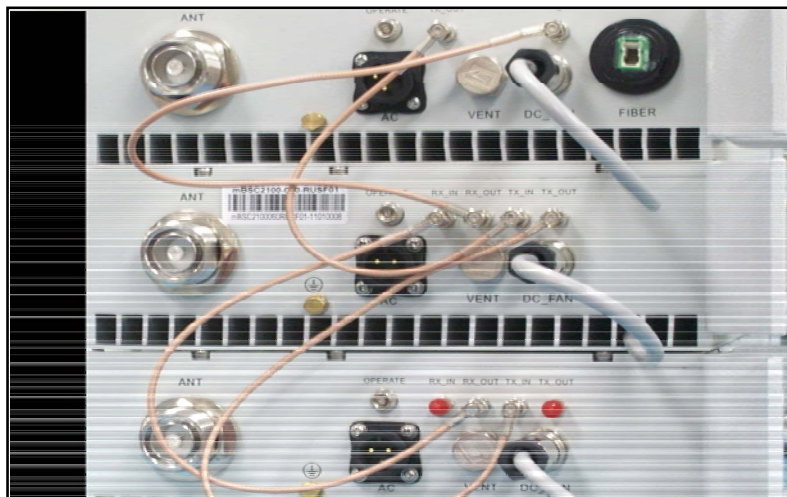

Figure 4-13. RF cable connection between Slave to Slave Remote Units
- 2 Connect the other end of the RF cable to the port labeled "TX\_IN" on the next **SLAVE** RU Unit. Continue connecting all **SLAVE** RUs in this manner, as shown in **Figure 4-13**.